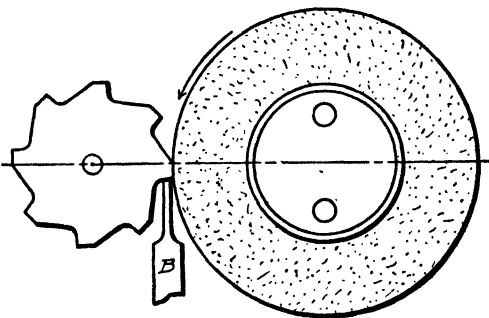

Fig. 41. Diagram Showing Method of Grinding Reamer for Clearance
**Clearances.** Grinding of the clearance on top of the tooth is an important point in the construction of a reamer. The clearance should be sufficient properly to relieve the cutting edge, as shown in Fig. 41. If too great a clearance is given, the tooth will be weak and chatter in the work. As is frequently produced, the cleared surface is slightly concave, the amount depending upon the diameter of the emery wheel used in grinding it. As a plane surface is desirable, a wheel of large diameter which gives approximately such a surface should be employed, or better still, the face of a cup emery wheel which gives a straight clearance.